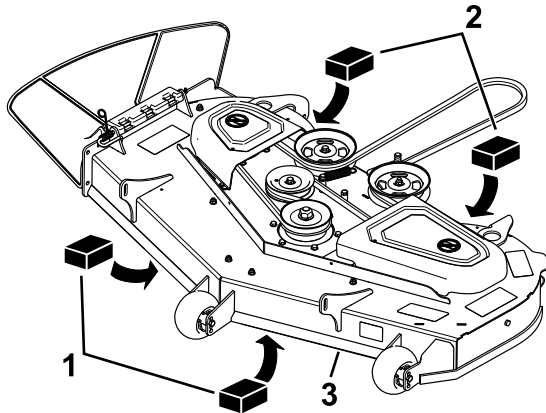

Figure 74
- Place 2 blocks, each having a thickness of 6.6 cm (2-5/8 inches), under each side of the front edge of the deck but not under the anti-scalp roller brackets (Figure 74).
- Place 2 blocks, each having a thickness of 7.3 cm (2-7/8 inches), under the rear edge of the cutting deck skirt, 1 on each side of the cutting deck (Figure 74).